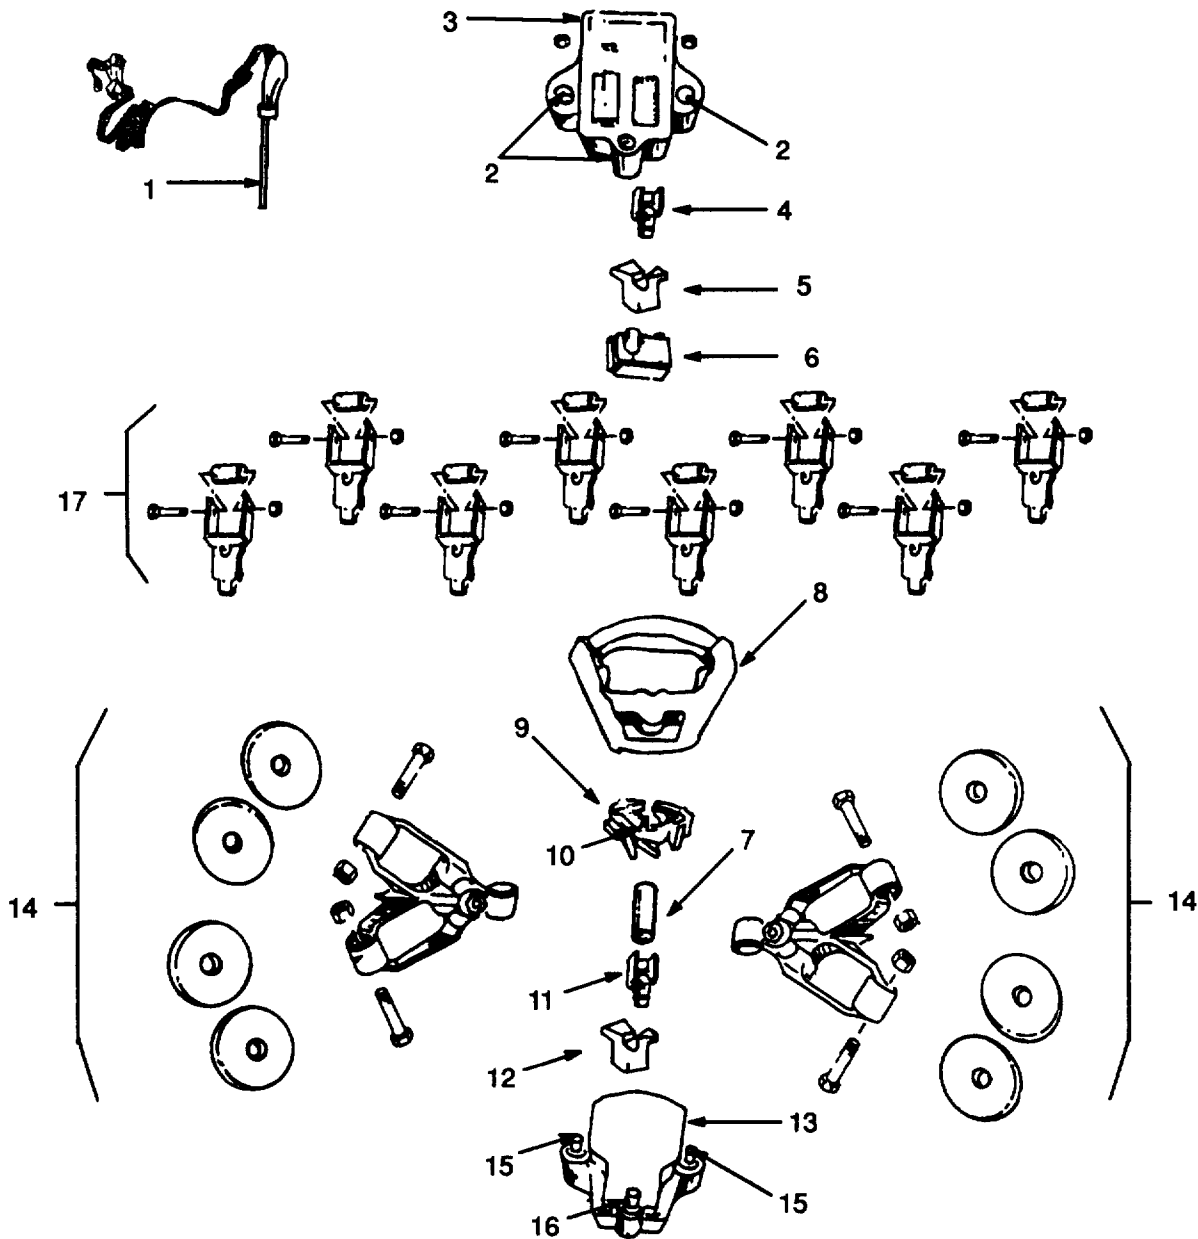

Figure 2-16. Release, Cargo Parachute, M-2 Repair.
- a. Place the release (Figure 2-16) on a table or other suitable flat surface with the front plate containing the arming wire guide block facing up.
- b. If the arming wire (1) is installed, pull the wire clear of the guide block and allow the delay release timer to run down.
- c. Remove the three nuts (2) securing the face plate (3) to the release and lift the face plate from the release.
- d. Remove the exposed toggle (4), toggle lockslide (5), and the timer mechanism (6) from the release body.
- e. Remove the toggle shaft (7) and the upper suspension link (8) from the release.
- f. Remove the retaining clamp (9) with the retaining damp pin (10) from within the upper suspension link (8) by sliding the damp down and out through the opening in the link.
- g. Remove the remaining toggle (11) and toggle lockslide (12) from the inside of the release back plate (13).
- h. Lift each of the two lower suspension links (14) from the two clevis bolts (15) on the release back plate. Remove the two clevis bolts (15) and the lower stud (16) from the back plate by removing the applicable nuts on the outside of the back plate.
- j. Further disassemble each of the lower suspension links (14) by removing the two 5/8-inch nuts, the two suspension link sleeves, the sling guides, the 9/16-inch clevis bolt nut, the clevis bolt, and the suspension link clevis.
- k. As required, disassemble each parachute release connector (17) by removing by 9/16-inch nut, bolt, and sleeve spacer from the upper end of the connector.